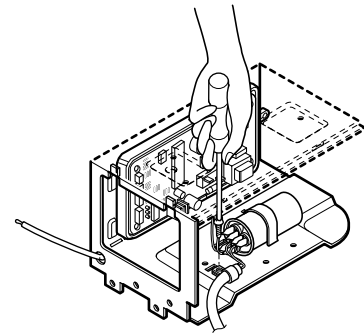

Figure 11
5. Remove a screw which fastens the clip cord. (See Figure 11)